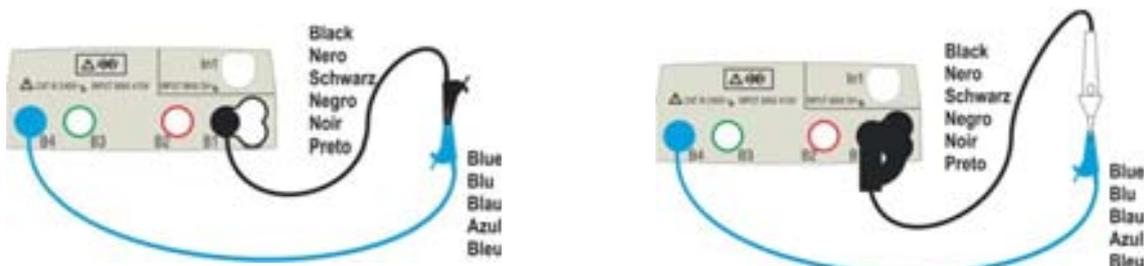

Fig. 7: Compensation of single cables and remote lead resistance
5. Perform, if necessary, the compensation of the measuring leads resistance by connecting the cables or the remote lead as shown in Fig. 7.